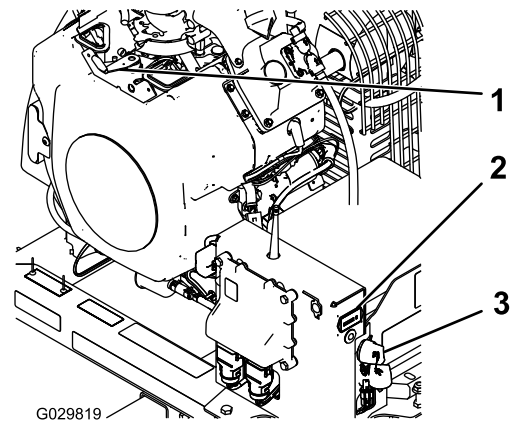

Figure 15
3. Rotate the engine ignition key to the START position (Figure 15).
3. If leaving the machine, rotate the key to the OFF position and remove it from the engine (Figure 15).